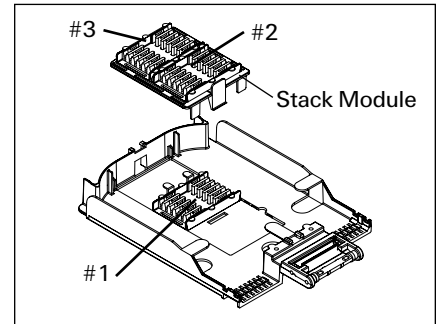

Figure 4
4. Modules should be filled in the order specified in Figure 4.